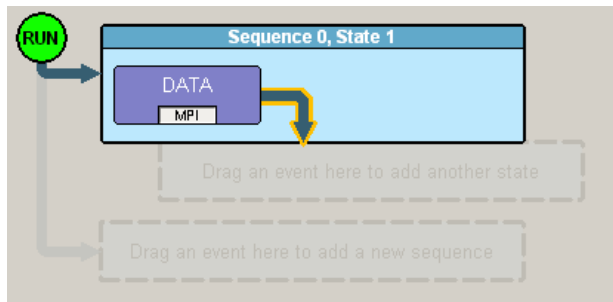

Figure 12.38 Example 5: First State Complete
Step 5 An arrow appears next to the Data button (Figure 12.38). The arrow points to the cell for the second state in this sequence.